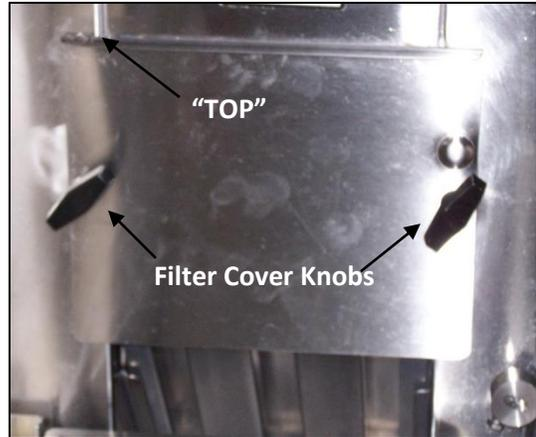

Figure 4
- Remove the filter cover plate from the back interior wall of the cooking chamber by removing the two black plastic knobs securing the cover plate. Figure 4.
- Reinstall the filter cover plate and turn the filter cover knobs clockwise until hand tight. Verify the word **TOP** on the filter cover plate is in the upper left hand corner. Figure 4.